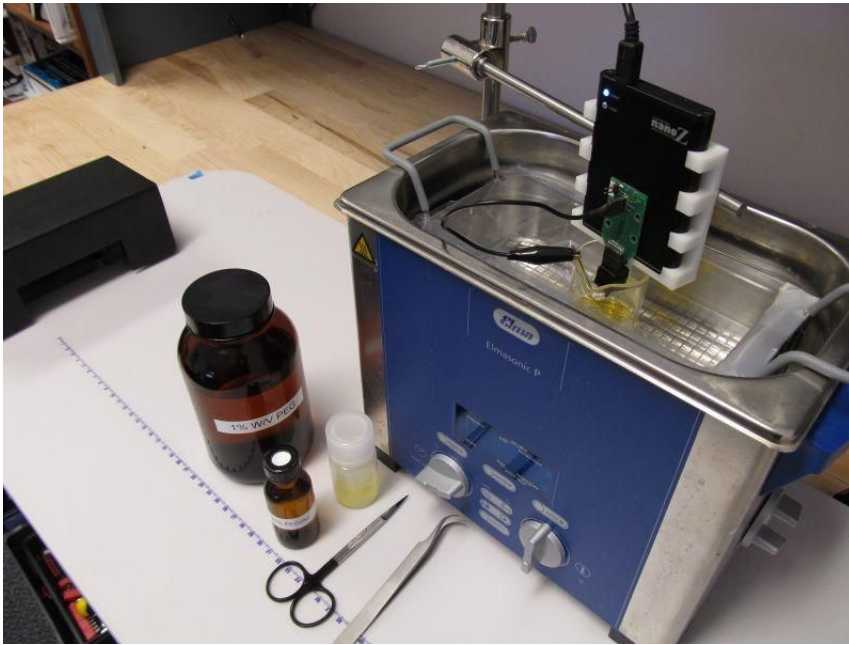

Figure 1: Plating Equipment
**Figure 1: Plating Equipment**
Table 1 and Figure 1 list and show the equipment you will need for successful plating.
Figure 1: Plating Equipment shows the recommended setup. It consists of a nanoZ, plating adapters, appropriate plating solutions, and optionally an UltraSonic cleaner. The electrodes are plated by applying negative current to the electrodes. The return to the nanoZ is connected to a stainless steel anode which is immersed in the plating solution along with the electrodes.